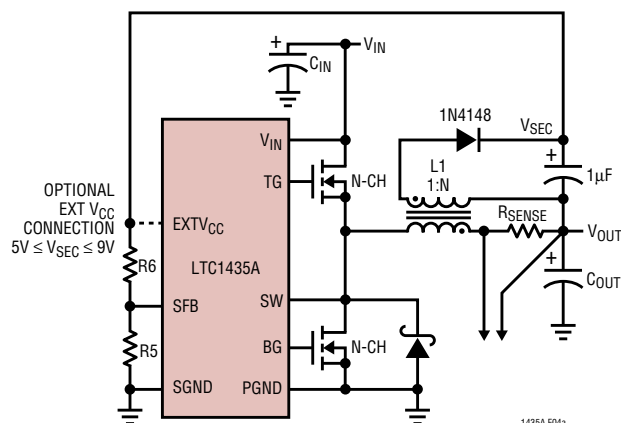
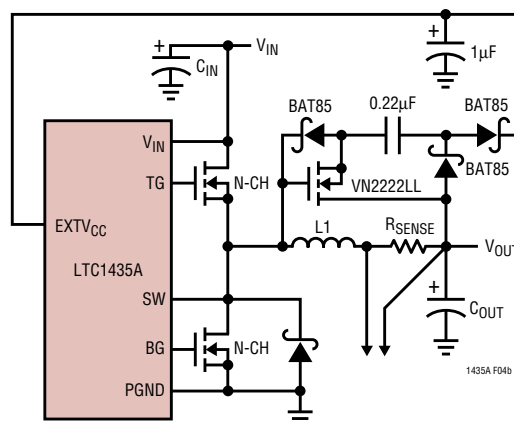

Figure 4a. Secondary Output Loop and $EXTV_{CC}$ Connection
Figure 4b. Capacitive Charge Pump for $EXTV_{CC}$
3. $EXTV_{CC}$ connected to an output-derived boost network. For 3.3V and other low voltage regulators, efficiency gains can still be realized by connecting $EXTV_{CC}$ to an output-derived voltage which has been boosted to greater than 4.8V. This can be done with either the inductive boost winding as shown in Figure 4a or the capacitive charge pump shown in Figure 4b. The charge pump has the advantage of simple magnetics.
The secondary output voltage is set by the turns ratio of the transformer in conjunction with a pair of external resistors returned to the SFB pin as shown in Figure 4a. The secondary regulated voltage, V_{SEC} , in Figure 4a is given by: